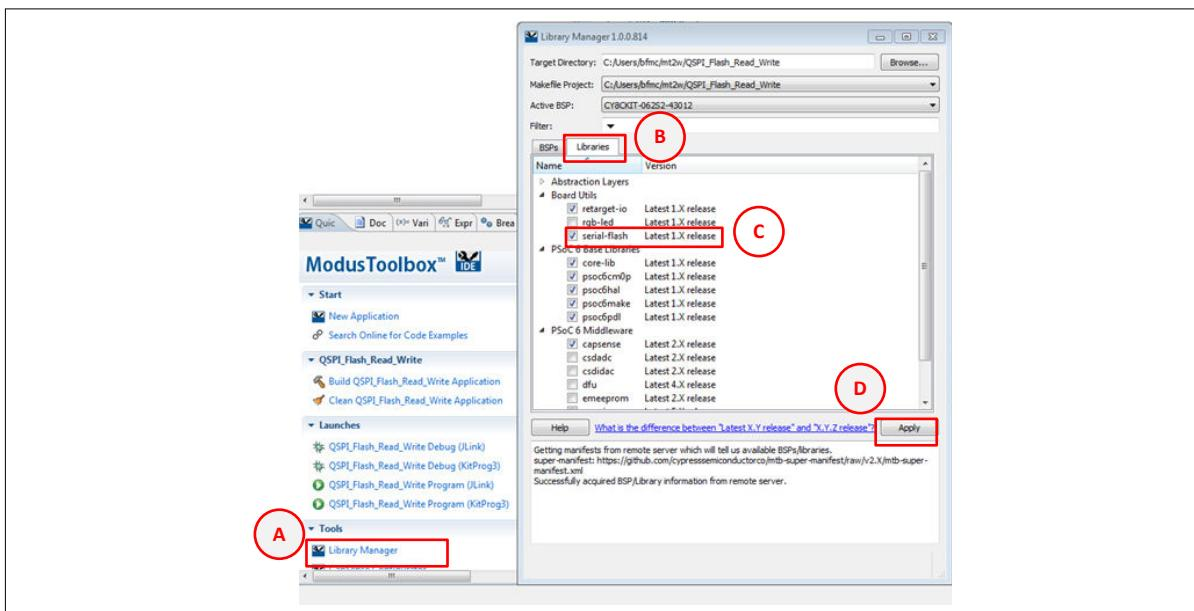

Figure 170 Adding Serial Flash Library
1. Enable the library in the **Library Manager** (see Figure 170)